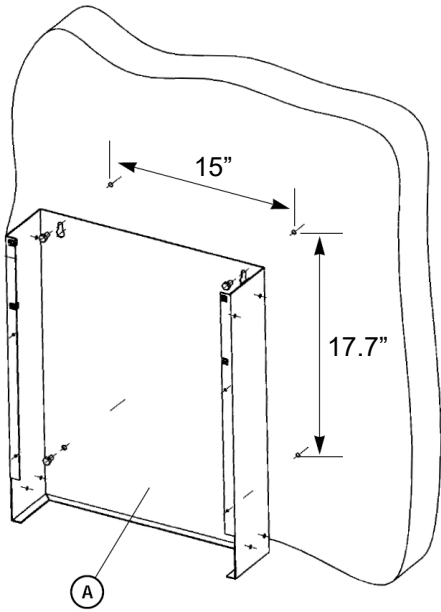

Figure 1
1. Fix body A to the wall by using screws (not supplied). (See figure 1).